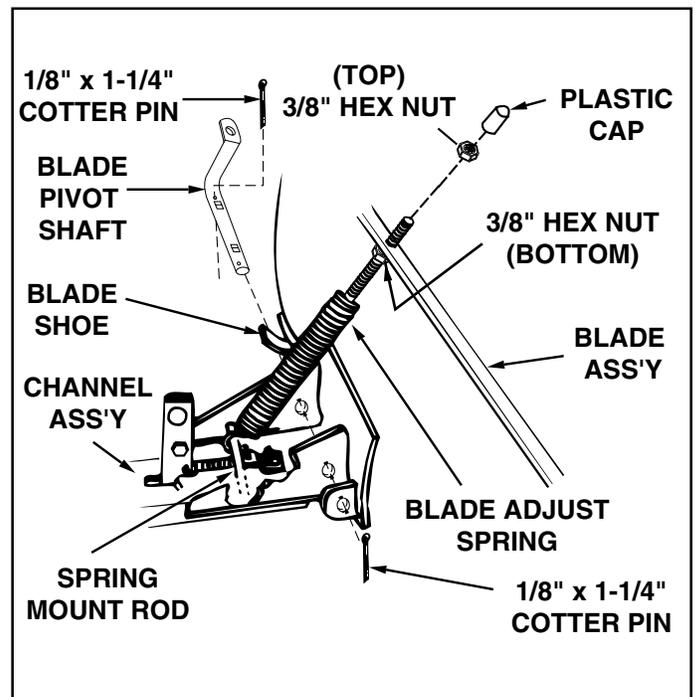

FIGURE 15 (Right Hand Side View)
- Attach blade assembly to channel assembly by inserting the blade pivot shaft from the left side (bend facing up) through the notched holes in the blade and channel assemblies. Secure with two 1/8" x 1-1/4" cotter pins through two holes in pivot shaft. Spread ends of pins. See figure 15.
- Hook blade adjust spring over spring mount rod as shown in figure 15. Remove plastic cap, and one 3/8" hex nut from bolt assembled in spring. Adjust the remaining 3/8" hex nut down approximately 1" onto the bolt threads. Assemble bolt up through the hole in top edge of blade and hold in place with the 3/8" hex nut removed earlier. Tighten 3/8" hex nut on top edge of blade down against the bottom 3/8" hex nut. Replace plastic cap over end of bolt threads. See figure 15.
The tension of the blade adjust spring is adjustable to permit blade to tilt forward to by-pass solid obstructions. To change spring tension (standing in front of blade assembly), adjust the nuts at upper end of the spring bolt, turning counter clockwise to relieve tension and clockwise to increase tension. See figure 15 on page 8.